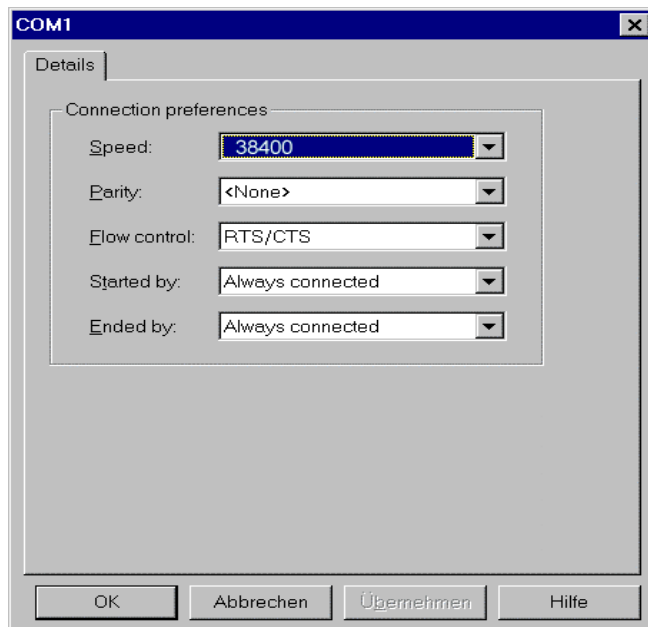

Fig. 26
- Select the settings as shown in the Fig. 26 and click OK.